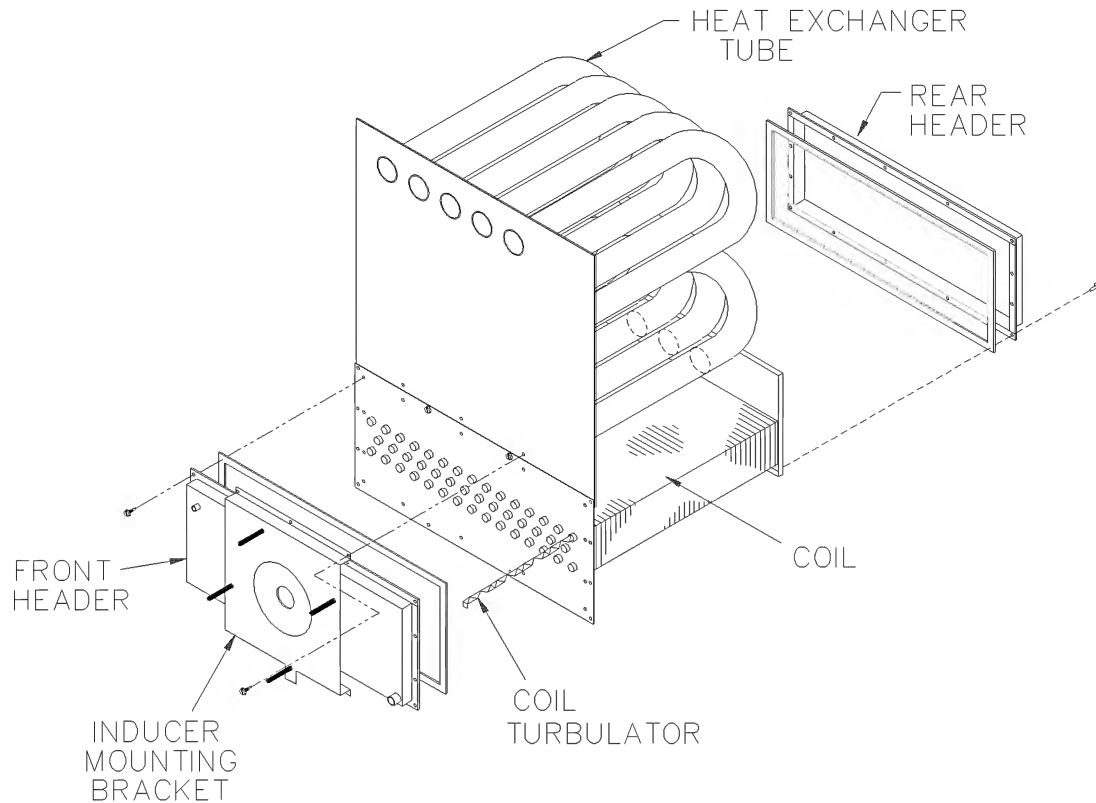

Figure 28
- d. Once the heat exchanger is removed, take off the front and rear headers(see Figure 28).